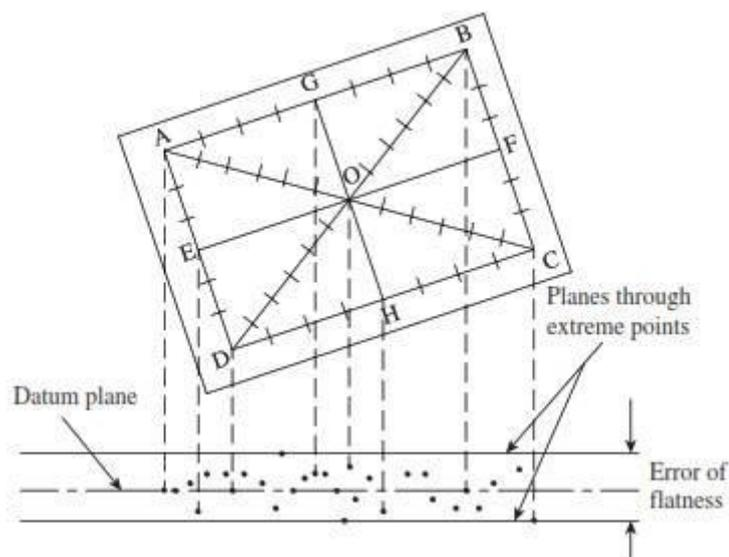

Fig. 4.5 Plot of heights of all points with reference to the datum plane ABD
6. Now, the heights of all the points, above and below the reference plane ABD, are plotted as shown in Fig. 4.5. Two lines are drawn parallel to and on either side of the datum plane, such that they enclose the outermost points. The distance between these two outer lines is the flatness error.